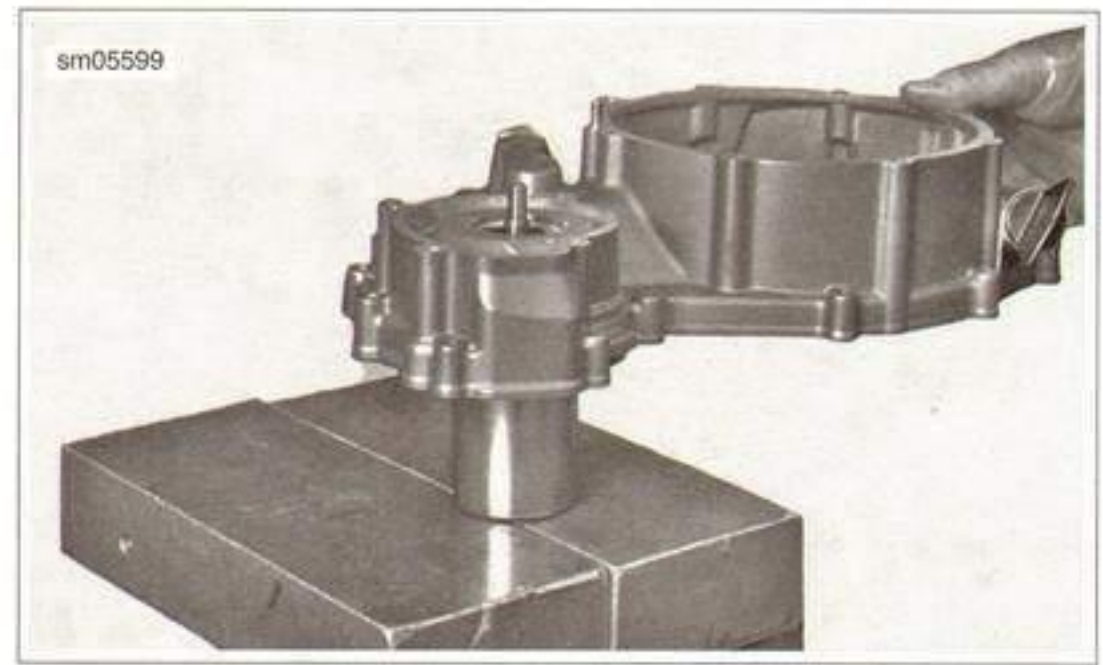

Figure 5-18. Clutch Cover Assembly in Position
6. See Figure 5-18. Position water pump base tool WATER PUMP SEAL INSTALLER BASE TOOL (Part No. B-49141-4) over water pump drive shaft and invert assembly onto press table.